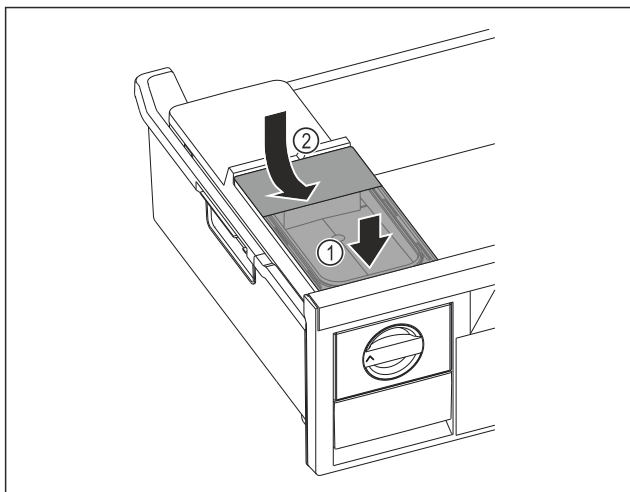

Fig. 76
- ▶ Position the water tank at the front. Fig. 76 (1)
- ▶ Lower the water tank at the rear. Fig. 76 (2)